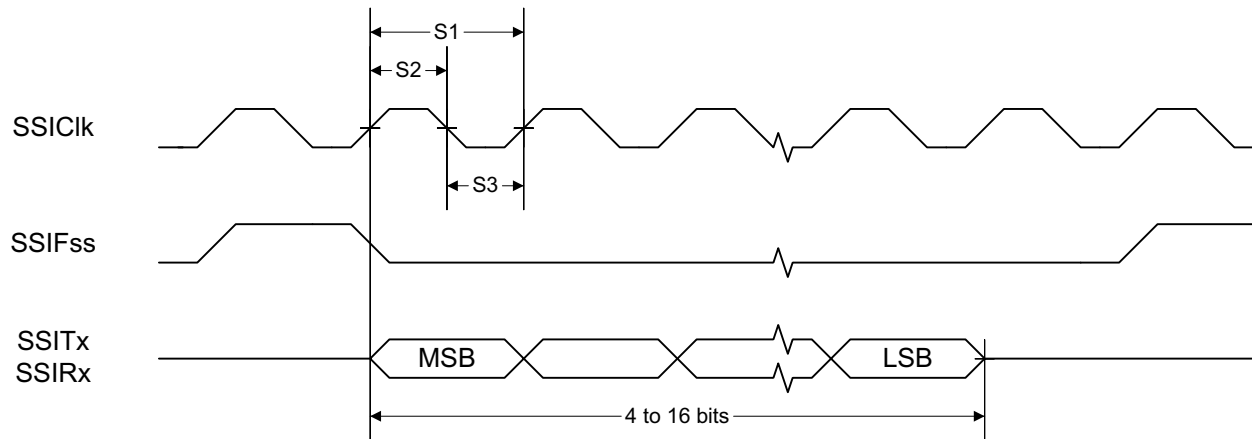
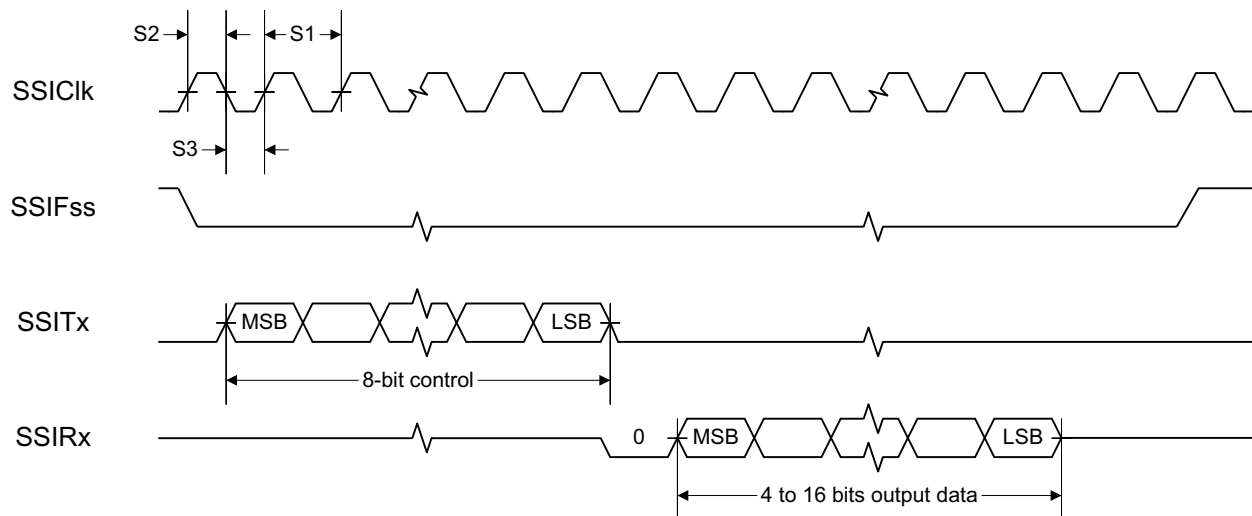
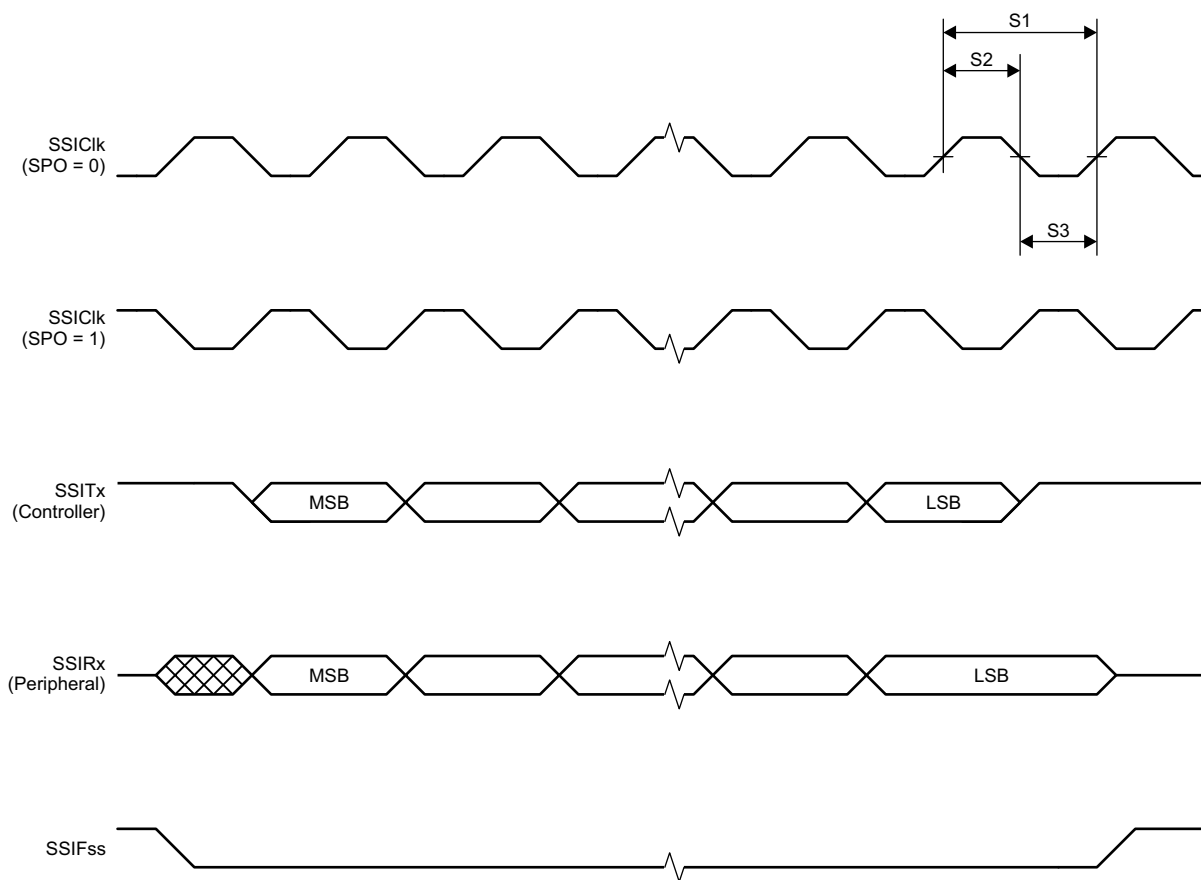

图 8-1. SSI Timing for TI Frame Format (FRF = 01), Single Transfer Timing Measurement
图 8-2. SSI Timing for MICROWIRE Frame Format (FRF = 10), Single Transfer
图 8-3. SSI Timing for SPI Frame Format (FRF = 00), With SPH = 1
- (1) Refer to SSI timing diagrams Figure 8-1, Figure 8-2, and Figure 8-3.
(2) When using the TI-provided Power driver, the SSI system clock is always 48 MHz.